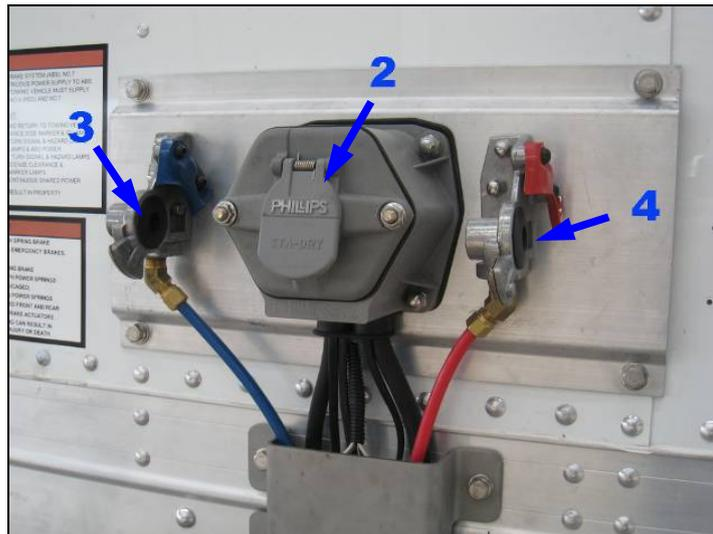

Figure 6-2 Disconnect Hoses and Electrical Connector
5. Disconnect the 7-pin electrical cable from trailer connector (1), service hose from glad hand (2) and supply hose from glad hand (3). See figure 6-2.